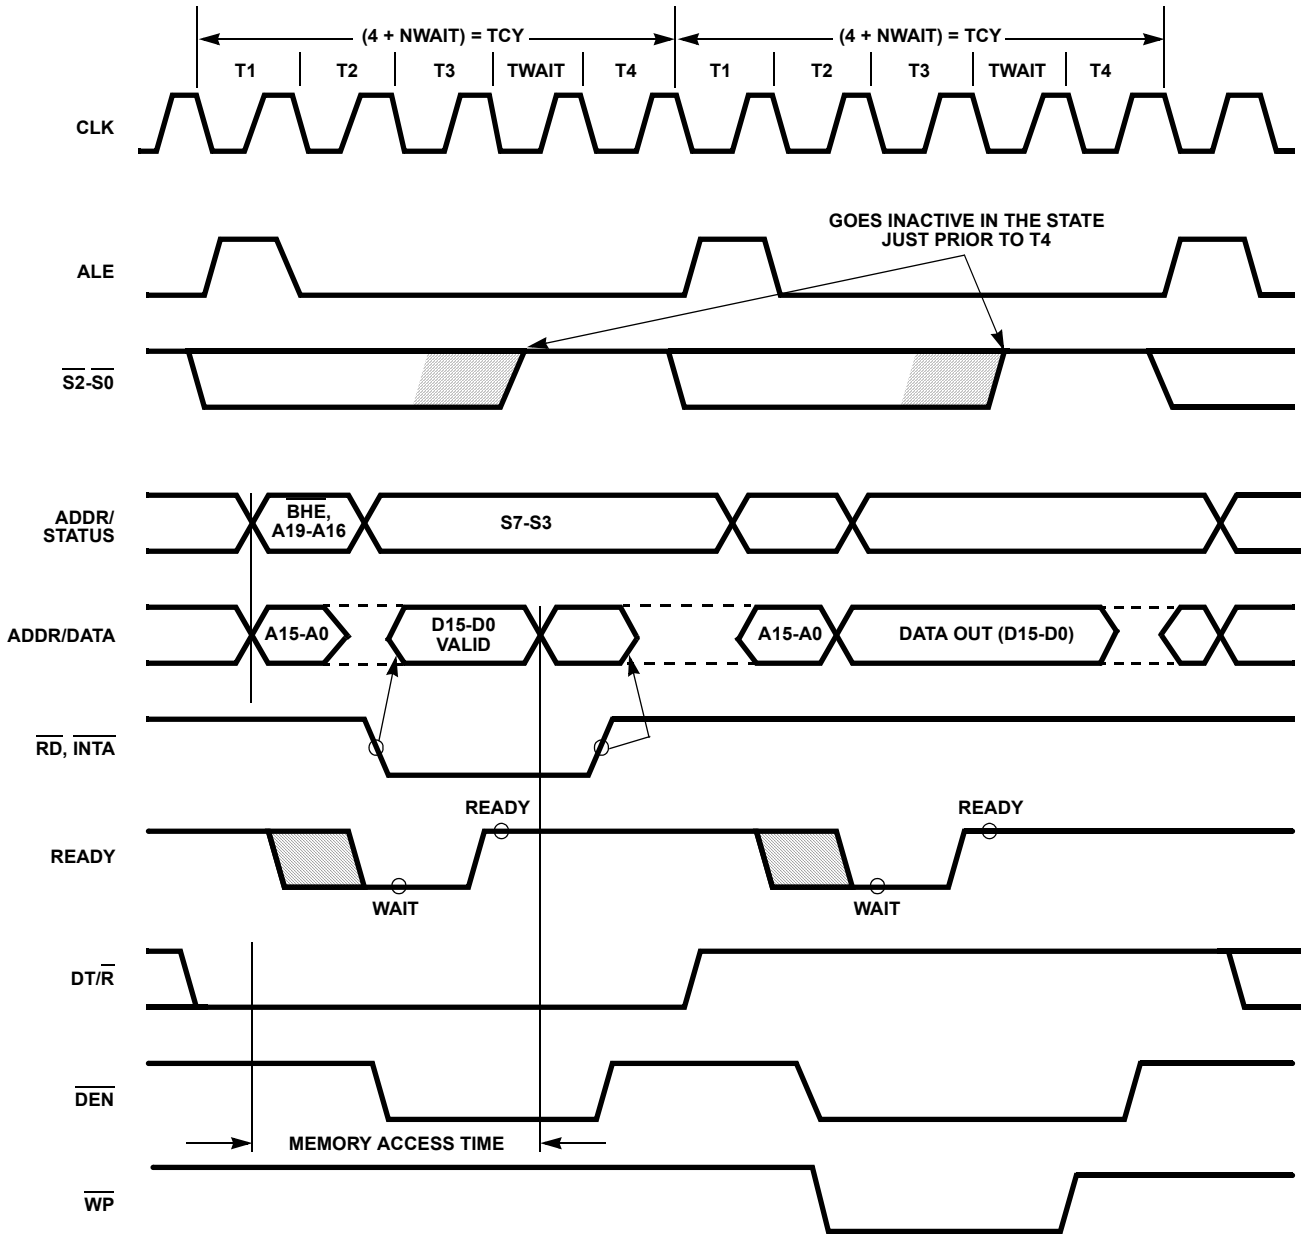

FIGURE 11. BASIC SYSTEM TIMING
Each processor bus cycle consists of at least four CLK cycles. These are referred to as T1, T2, T3 and T4 (see Figure 11). The address is emitted from the processor during T1 and data transfer occurs on the bus during T3 and T4. T2 is used primarily for changing the direction of the bus during read operations. In the event that a "NOT READY" indication is given by the addressed device, "Wait" states (TW) are inserted between T3 and T4. Each inserted wait state is the same duration as a CLK cycle. Idle periods occur between HS-80C86RH driven bus cycles whenever the processor performs internal processing.
Typical system configurations for the processor operating in minimum mode and in maximum mode are shown in Figures 14A and 14B, respectively. In minimum mode, the MN/MX pin is strapped to VDD and the processor emits bus control signals (e.g. RD, WR, etc.) directly. In maximum mode, the MN/MX pin is strapped to GND and the processor emits coded status information which the 82C88 bus controller used to generate Multibus™ compatible bus control signals. Figure 11 shows the signal timing relationships.